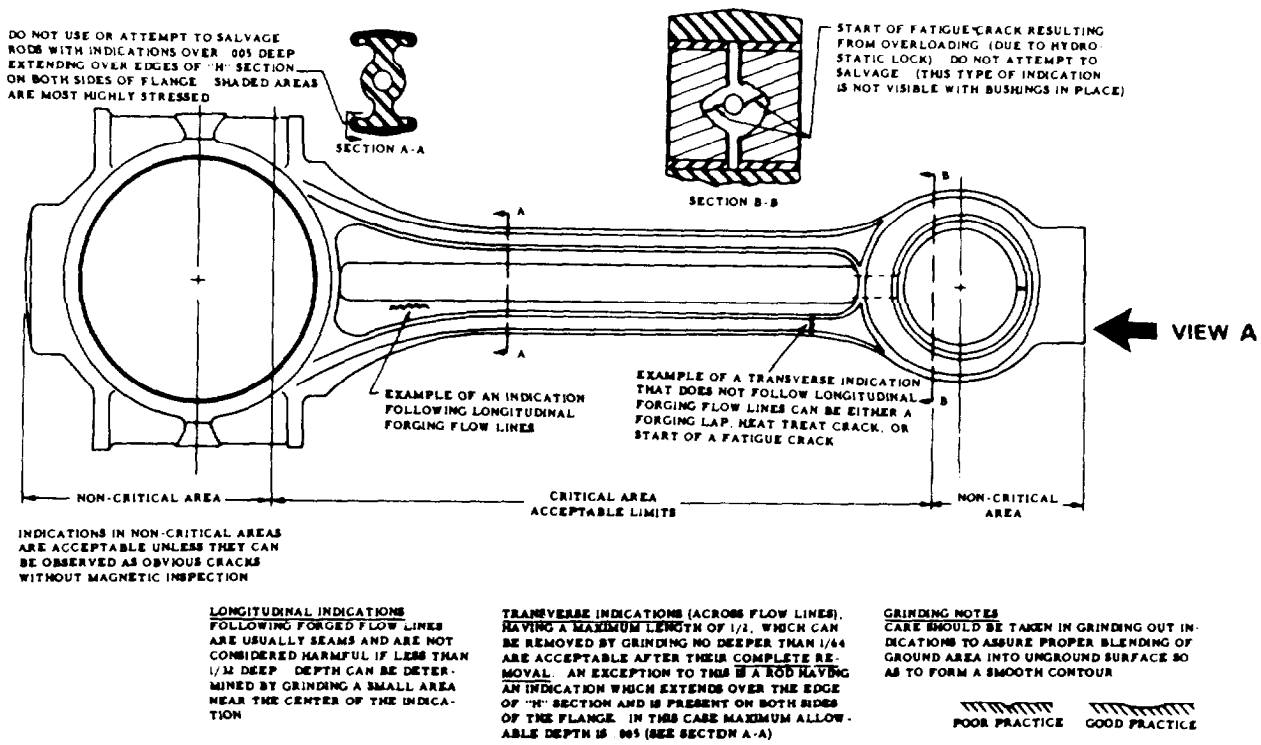

Figure 11B-126. Magnetic Particle Inspection Limits for Connecting Rod
4. Determine length by finding the distance between E1 and E2 (see Figure 11B-127 on page 11B-80).